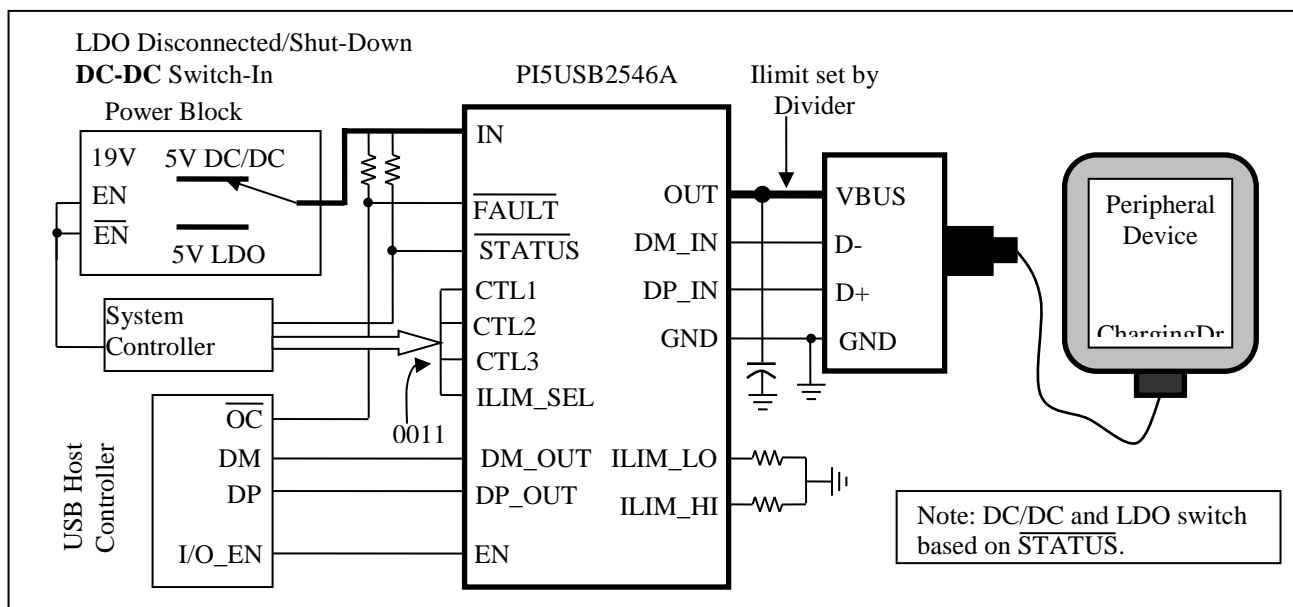

Figure 7, Case 1: System in S4/S5, Device Charging
Following Power Wake flow chart when a device is attached and draws >55mA of charging current the PI5USB2546A will hit its internal current limit. This will trigger the device to assert /STATUS (LO) and turn on the DC-DC converter and turn off the LDO. PI5USB2544A/2546A will discharge OUT for >2s (typ.) to allow the main power supply to turn on. After the discharge the device will turn back on with current limit set by ILIM_HI (Case 1, Figure 7)